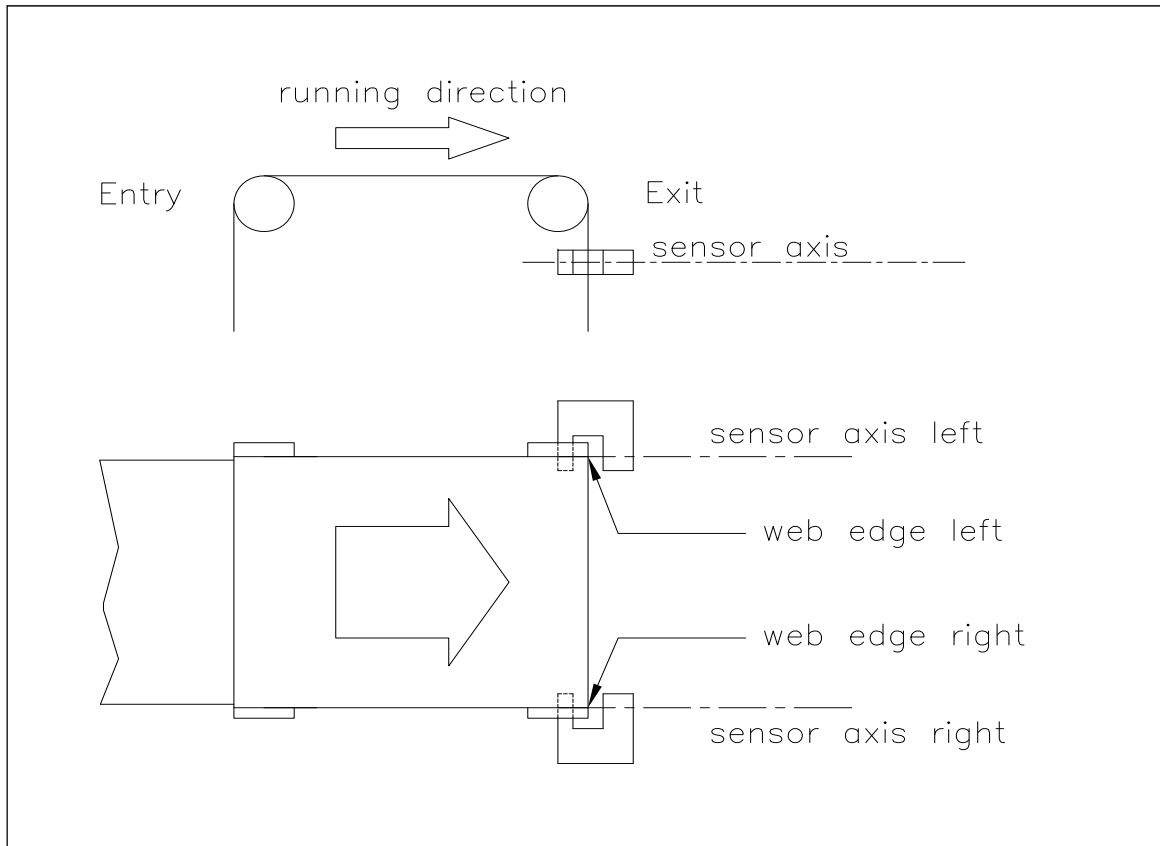

Fig. 2: Position of the sensors according to the web
- ⚠** *Make sure that the sensor(s) are connected properly to the electronic unit by means of the delivered cables. For left / right orientation please refer to Fig. 2. If the connections are crossed over, malfunction can be the result.*
They have to be installed after the outbound roller. Mount them as close as possible to the steering frame (see **Fig. 2**). The sensors are connected to the web guide controller by means of the delivered orange cables. Refer to the operation manual AZS01, US01B for further information about the sensors.
Left and right are always seen in direction of the running web (see Fig. 2).
*Make sure that the sensor(s) are connected properly to the electronic unit by means of the delivered orange cables. For left / right orientation please refer to Fig. 2. If the connections are crossed over, malfunction can be the result.*